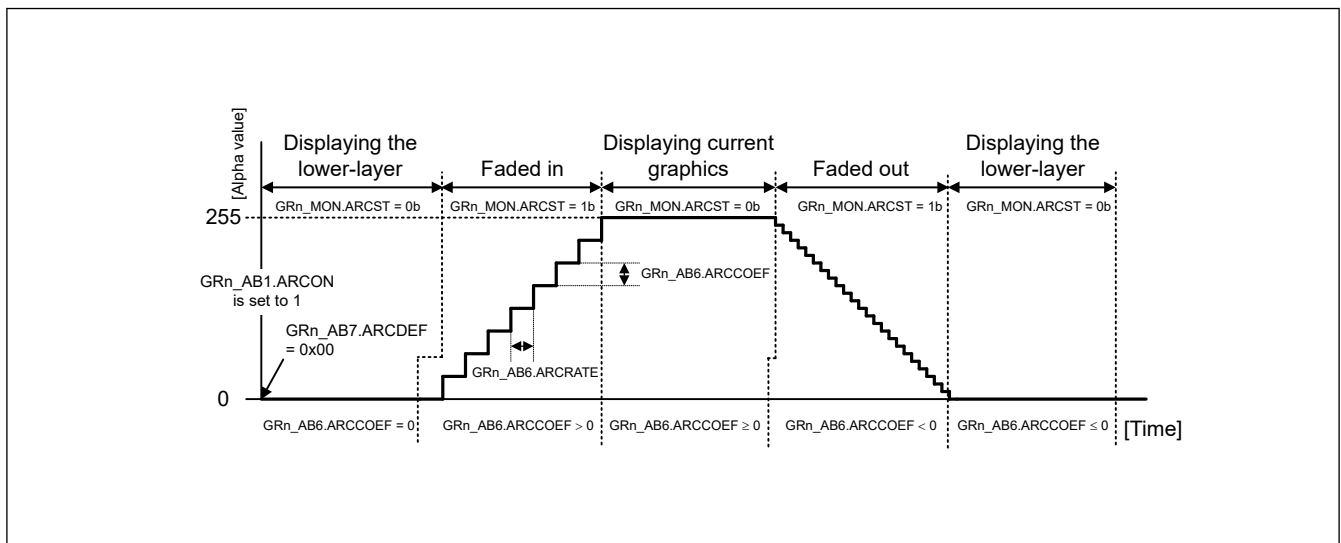

Figure 64.11 Changes in alpha value
In alpha blending in a rectangular area, current graphics are faded in or out with the GRn_AB7.ARCDEF[7:0], GRn_AB6.ARCCOEF[8:0], and GRn_AB6.ARCRATE[7:0] settings. If the alpha value is set in the GR_ARC_DEF[7:0] bits, the GR_ARC_DEF[7:0] bits and the alpha blending in a rectangular area are turned on. Each time the vertical synchronization signal (VS) rises the number of times set in the GR_ARC_RATE[7:0] bits, the value in GR_ARC_COEF[8:0] is added to or subtracted from the alpha value. Figure 64.11 shows change in the alpha value.
The ARCDEF[7:0] bits specify the initial alpha value for alpha blending in a rectangular area. For changes in the alpha value during fade-in or fade-out of the current graphics using this bit, see Figure 64.11.